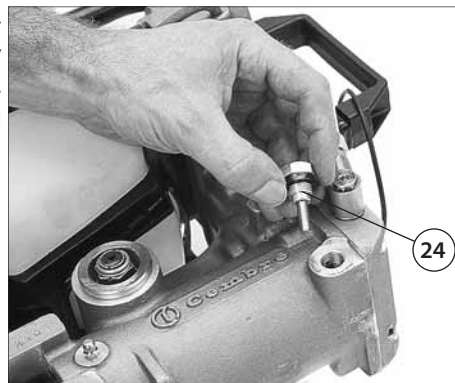

FIG. 26c – REMOVAL OF METALLIC WASTE
When the drill is positioned as shown in Fig. 26c unscrew the cap with magnetic insert (24) on which any metal residues present in the oil will have collected. Carefully clean the magnetic insert with a clean rag and screw it back in to the appropriate housing.